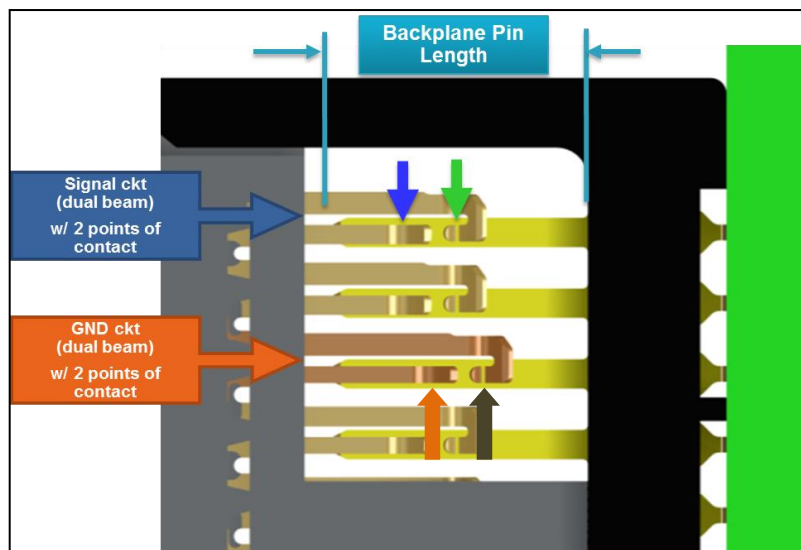

Figure 10: Short/Long Signal and Ground beam
**see Figure 10 below for short and long signal/ground*